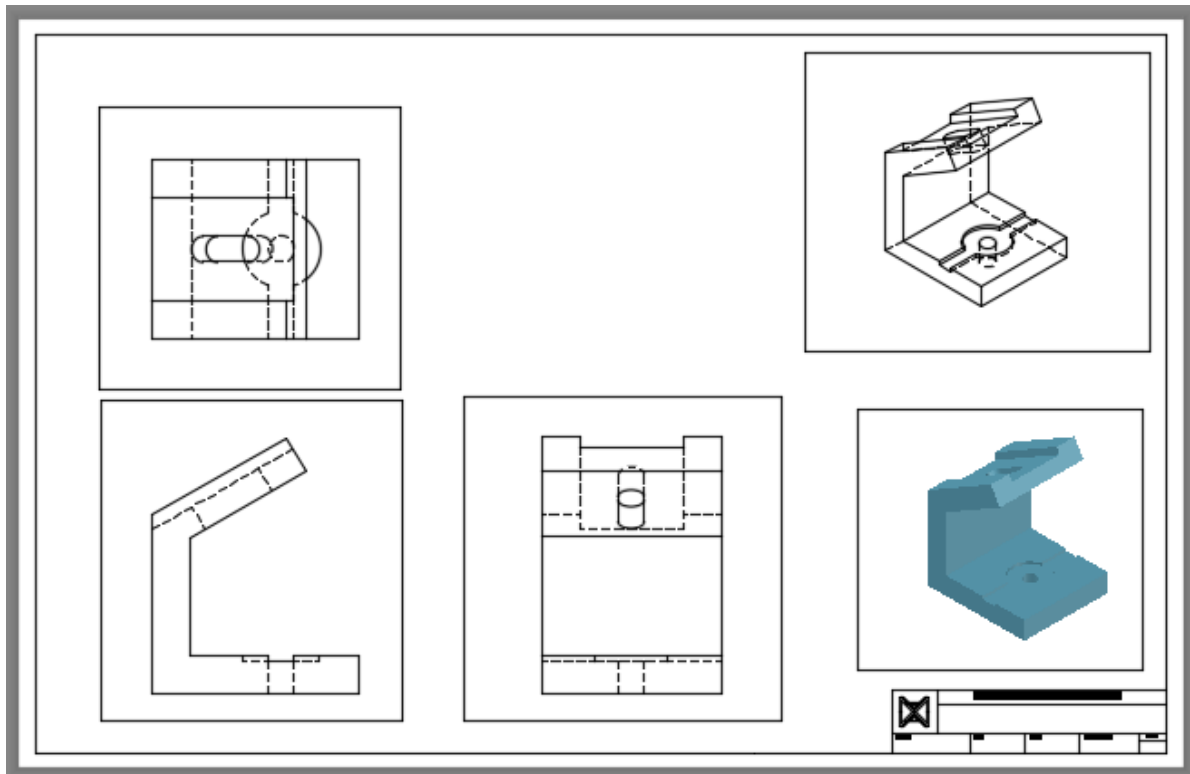

Figure Step 7
Step 7 Use the SOLPROF command to create the hidden lines in the isometric viewport. (Figure Step 7)